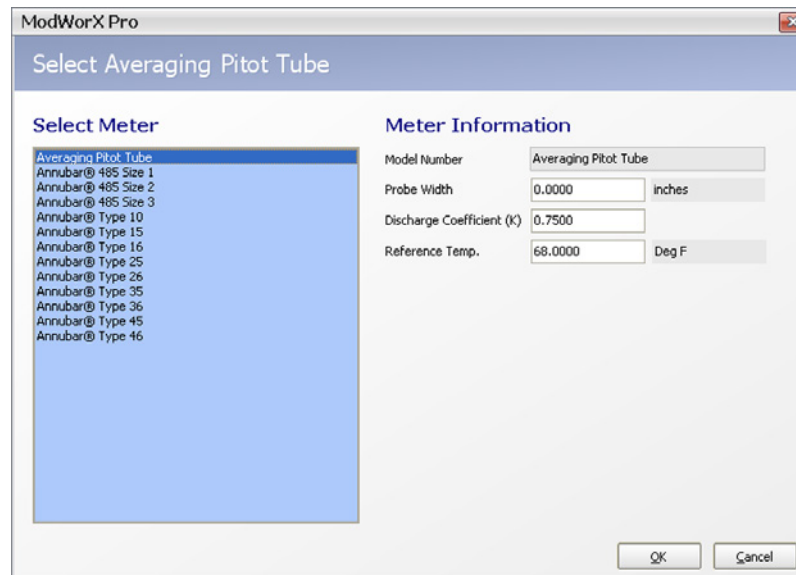

Figure 11.6
- Click **Select Meter** to display a list of meter selections. The Select Averaging Pitot Tube screen will appear (Figure 11.6).